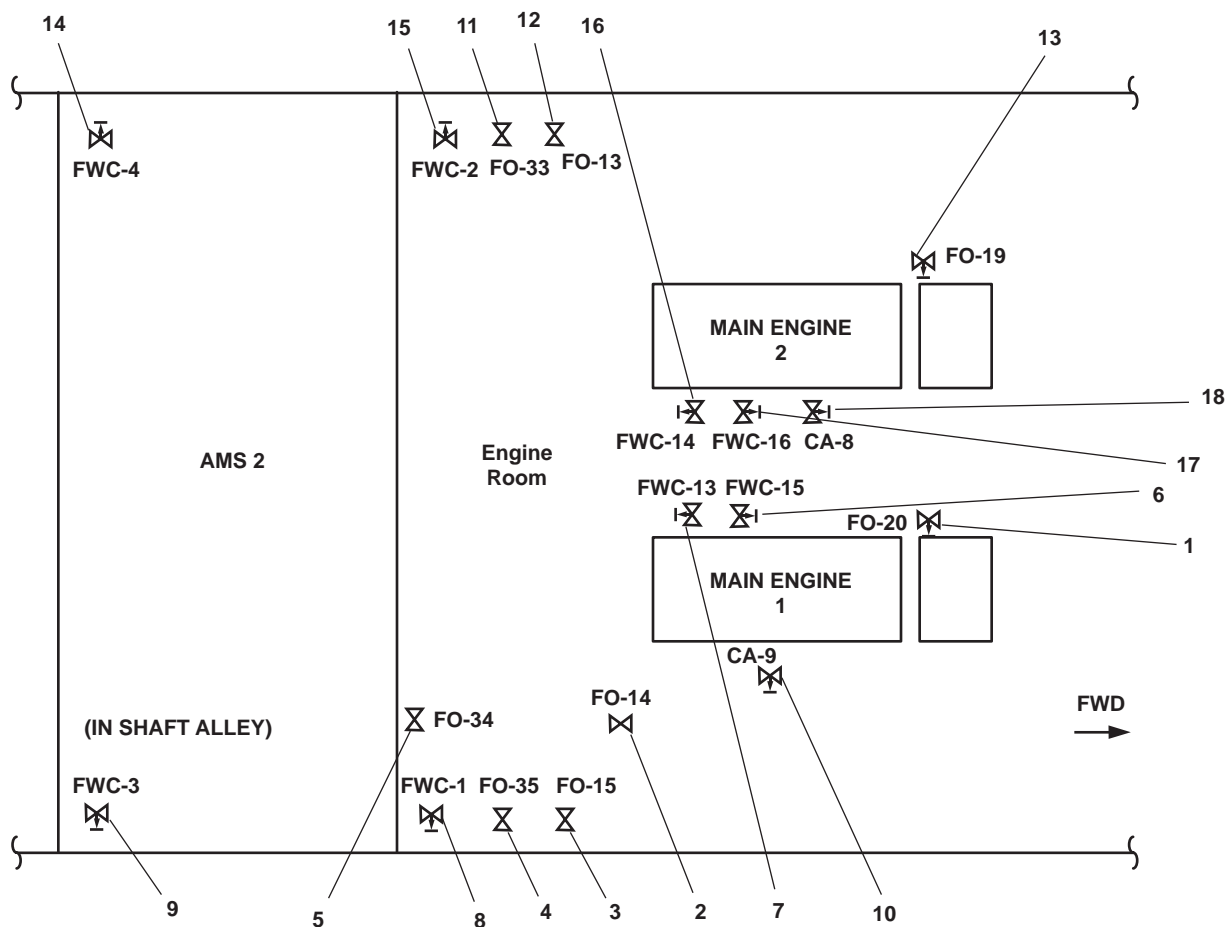

Figure 4. Main Propulsion System Valve Locations
- a. FO-20, F.O. SPLY TO STBD ME No. 1 (figure 4, item 1)
- b. FO-14, F.O. SERV CRSVR (figure 4, item 2)
- c. FO-15, F.O. SERV. SUCT. STBD (figure 4, item 3) (remote operator in the galley)
- d. FO-35, F.O. RTN TO DAY TK. STBD (figure 4, item 4)
- e. FO-34, F.O. RTN CRSVR (figure 4, item 5)
- f. Fwc-15, F.W. FR. KEEL CLR TO RED. GEAR No. 1 (figure 4, item 6)
- g. Fwc-13, F.W. FR. RED. GEAR No. 1 TO KEEL CLR (figure 4, item 7)
- h. Fwc-1, F.W. FR. KEEL CLR TO M.E. N0. 1 (figure 4, item 8)
- i. Fwc-3, F.W. FR. M.E. No. 1 TO KEEL CLR. (figure 4, item 9)
- j. CA-9, STG AIR TO ME #1 (figure 4, item 10)